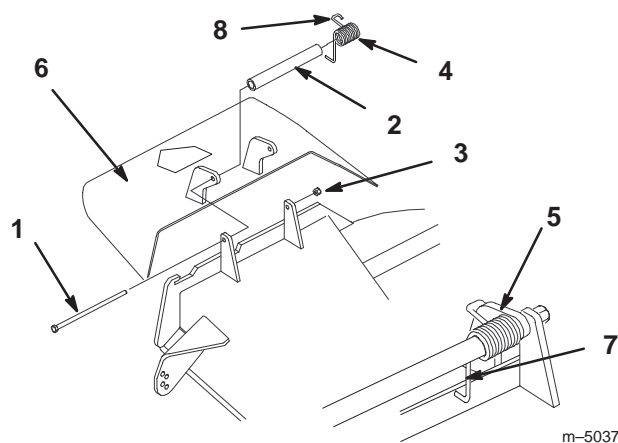

Figure 71
- Remove the locknut, bolt, spring and spacer holding the deflector to the pivot brackets (Fig. 71). Remove damaged or worn grass deflector.
Note: Make sure the L end of spring is installed behind deck edge before installing the bolt as shown in figure 71.
- Install bolt and nut. Place J hook end of spring around grass deflector (Fig. 71).